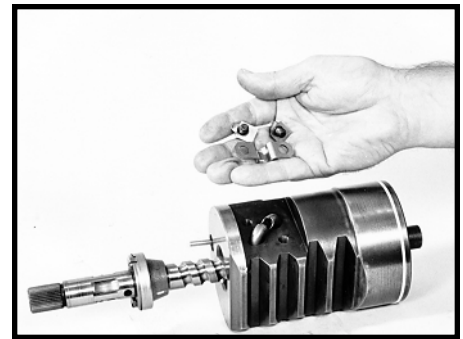

Figure 69
33. For rack pistons with the ball return guide clip (44), bend the tangs down on the two locking tabs (45). SEE FIGURE 68. Remove the two hex head bolts (46), tabs and clip. Discard locking tabs. SEE FIGURE 69. 1/2 inch hex socket required.